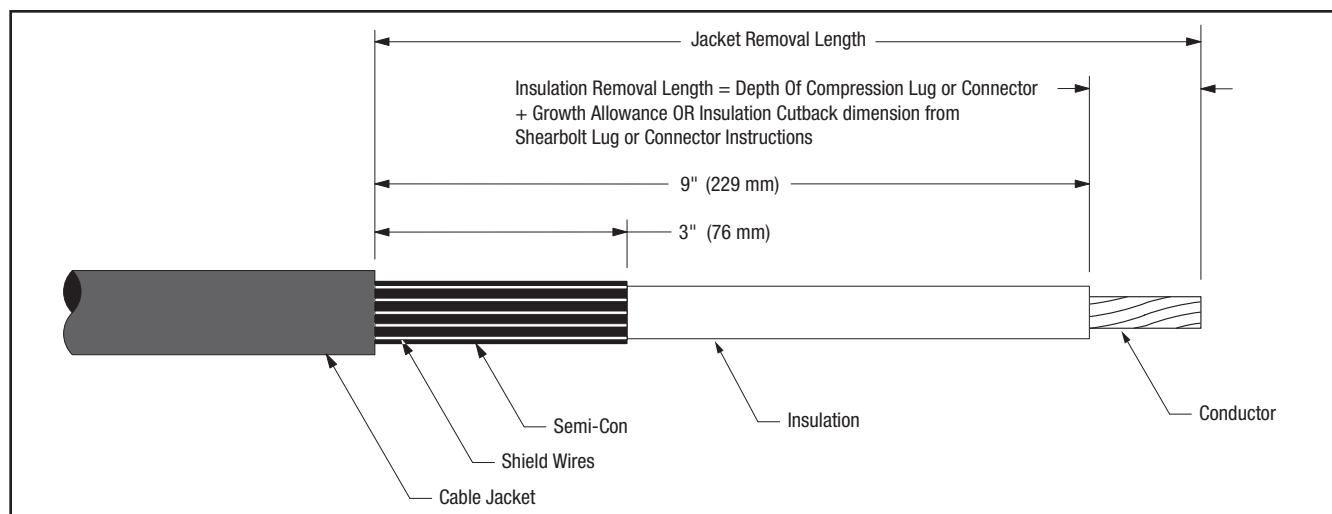

Figure 9
- 7.2 Prepare cable using dimensions shown in Figures 9 and 10. **BE SURE TO ALLOW FOR DEPTH OF TERMINAL LUG OR CONNECTOR.**